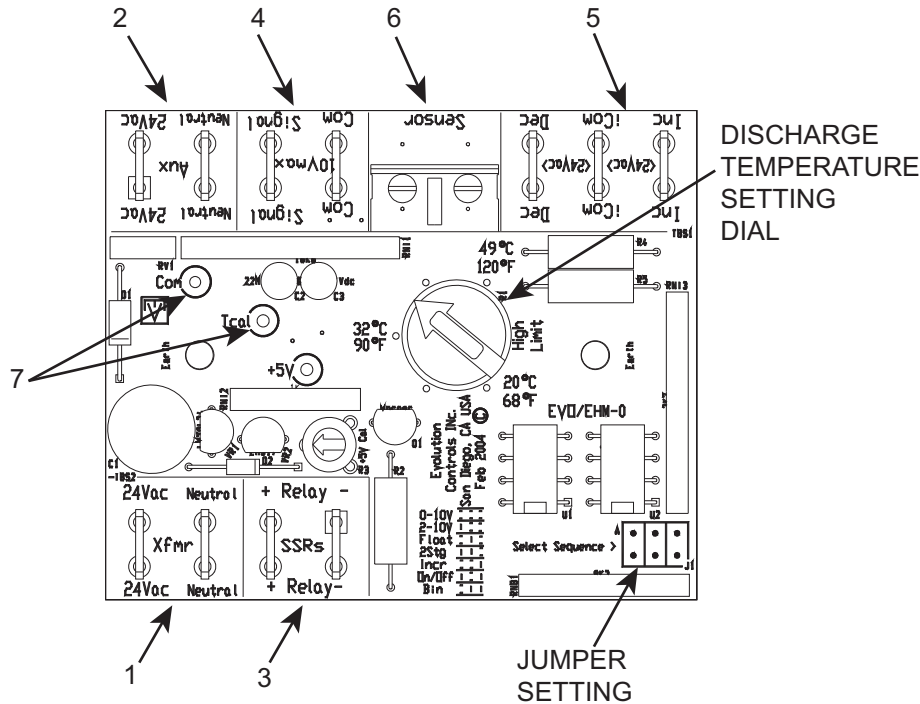

Fig. 15 — EHM Control Board
The Proportional SSR Heat board can be controlled and operated in 7 different ways. The units are ordered with an LXY code, where X is coded for unit power and Y is coded for the application (1-7). This Y application can be changed in the field. The application desired is chosen by placement of jumpers in the corner of board (see Fig. 15). The jumper settings shown in Table 9 represent the pins at the bottom corner of the control board as shown in Fig. 15. See Fig. 16-22 for application wiring diagrams.
See Fig. 15. The EHM control board is powered by 24vac (Fig. 15, item 1) from the transformer in the electric heater. The EHM has auxiliary 24vac outputs (Fig. 15, item 2) that can be used to power the unit's electrical controls. Next to the "Xfmr" inputs are the "+" and "-" relay connections (Fig. 15, item 3) that control the solid state relays by sending pulses of ~25vdc.
There are two terminations to use for dc volt control (Fig. 15, item 4) of the electric heat (applications LX3 and LX4). These are polar sensitive. The "+" signal from the controller must be connected to "Signal" on the EHM Control Board. The "-" from the controller must be connected to "Com" next to "Signal" (**not** "iCom"). A termination to "-" is possible, but not necessary, to measure mA signals to the board.
There are three terminations for 24vac control (Fig. 15, item 5) of the electric heat (applications LX1, LX2, LX5, LX6, and LX7). "Inc" is for the increase signal in applications LX5 and LX7, as well as the first stage heat signal in applications LX1, LX2, and LX6. "Dec" is for the decrease signal in application LX7, as well as the second stage heat signal in applications LX2 and LX6. A connection to "iCom" is necessary for all of these 24 vac applications. If the unit's controller does not have a common output, a jumper to the correct "Aux" terminal can be used. If the unit controller outputs the "24vac" side from its input power, a jumper should be made from "Neutral" to "iCom" (see sample schematic, Fig. 23). If the unit controller outputs the "Neutral" side of its input power, a jumper should be made from "24vac" to "iCom".
Neither the jumper settings nor the controls wiring needs to be changed when this option is installed. The EHM control board will detect if a sensor has been connected, and it will adjust the control function accordingly. The sensor wires are connected to the screw terminals at the Sensor (Fig. 15, item 6) location on the EHM. The connection at this termination is
The desired discharge temperature is set by rotating the discharge temperature set point dial arrow to the maximum outlet temperature desired. To fine-tune the discharge temperature set point, connect the positive and negative leads of a multimeter to Tcal and Com (Fig. 15, item 7), respectively, on the EHM. Then place a jumper between the two screw heads on the sensor termination. Rotate the discharge temperature set point dial until the desired voltage per temperature is obtained. See Table 10. After the voltage is obtained, the EHM board must be reset. To reset the board, remove the jumpers and then place back in correct position.
- a. If using applications LX3 and LX4, confirm the positive vdc connection is wired to the "Signal" terminal, and the negative vdc connection is wired to the "Com" terminal. See Fig. 15.
- b. If using 24vac, confirm the wires are terminated correctly at (5) with a connection at "iCom". See Fig. 15. If an "Aux" terminal (Fig. 15, item 2) on the EHM has been jumpered to "iCom", make sure that the opposite 24vac input is output at the controls (see Fig. 23 for one example).